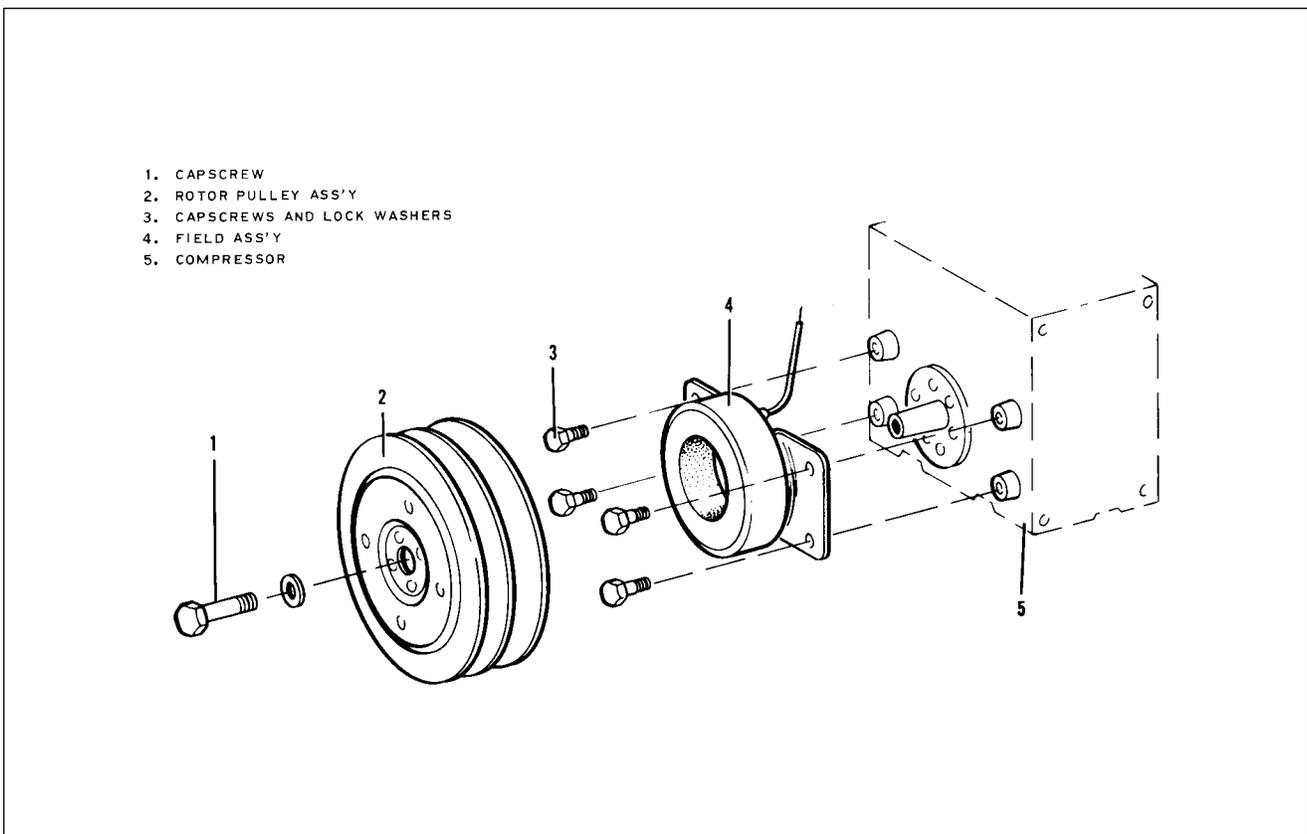

Figure 21-16. Magnetic Clutch (York Compressor)
**MAGNETIC CLUTCH REMOVAL.** (Refer to Figure 21-16.)
**MAGNETIC CLUTCH INSTALLATION.** (Refer to Figure 21-16.)